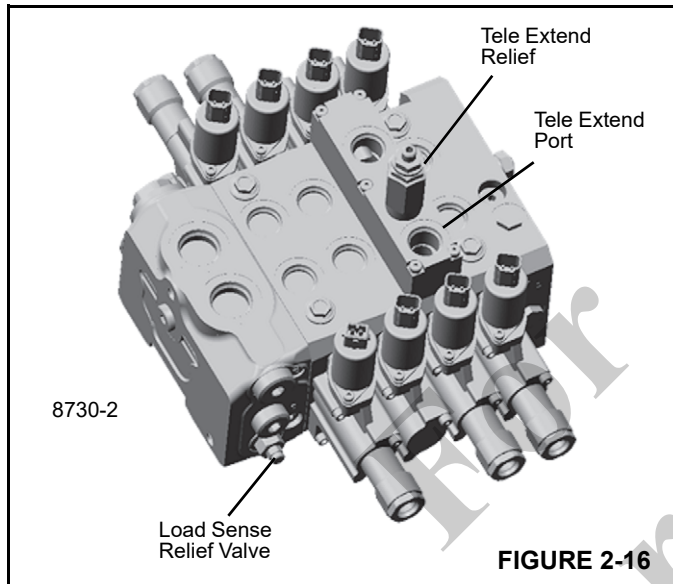

FIGURE 2-16
- If the pressure in previous step cannot be reached, adjust the load sense relief valve on the main directional valve (Figure 2-16). Turn adjusting screw clockwise a half turn and tightened and repeat previous step until pressure is reached.
- Adjust the pressure relief cartridge located in the tele relief valve (Figure 2-16). Screw in to increase or out to decrease until correct pressure is achieved, and re-tighten the locknut.